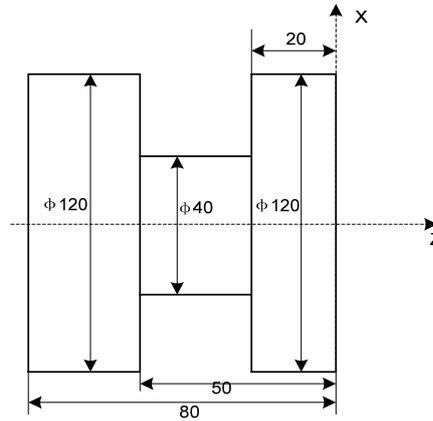

Fig.2-53 G75 cutting
Example: Fig.2-53
Command function: Tool infeeds in radial(X) direction and cuts in axial(Z or X, Z) direction from starting point of cutting to realize straight thread, taper thread cutting cycle with constant thread pitch. Thread run-out in G92: at the fixed distance from end point of thread cutting, Z executes thread interpolation and X retracts with exponential or linear acceleration, and X retracts at rapidly traverse speed after Z reaches to end point of cutting as Fig. 2-52 and Fig.2-53.